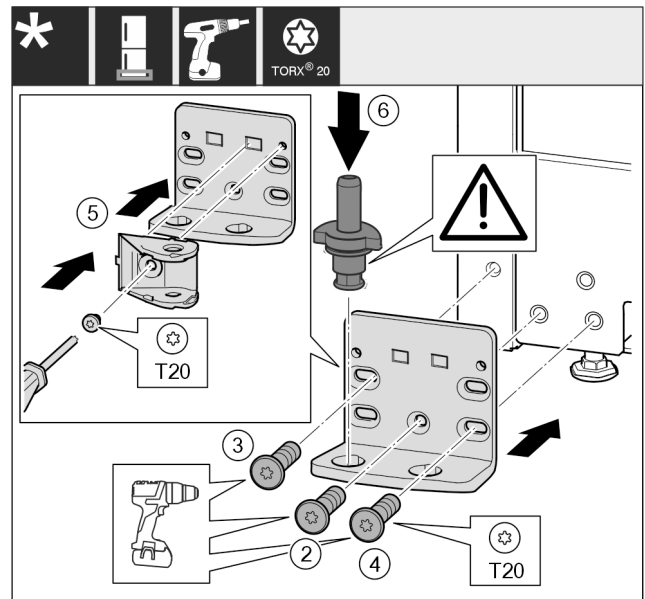

Fig. 39
- ▶ Attach the swap bearing block onto the other side and screw it on using a screwdriver. Start with the screw Fig. 39 (2) at the bottom center.
- ▶ Tighten screw Fig. 39 (3) and screw Fig. 39 (4).
- ▶ Turn the closing damper connection Fig. 39 (5) by 180°. On the other side of the swap bearing block, screw it on with the screwdriver.
- ▶ Insert the bearing pin Fig. 39 (6) completely. In the process, make sure that the latching cam shows towards the rear.